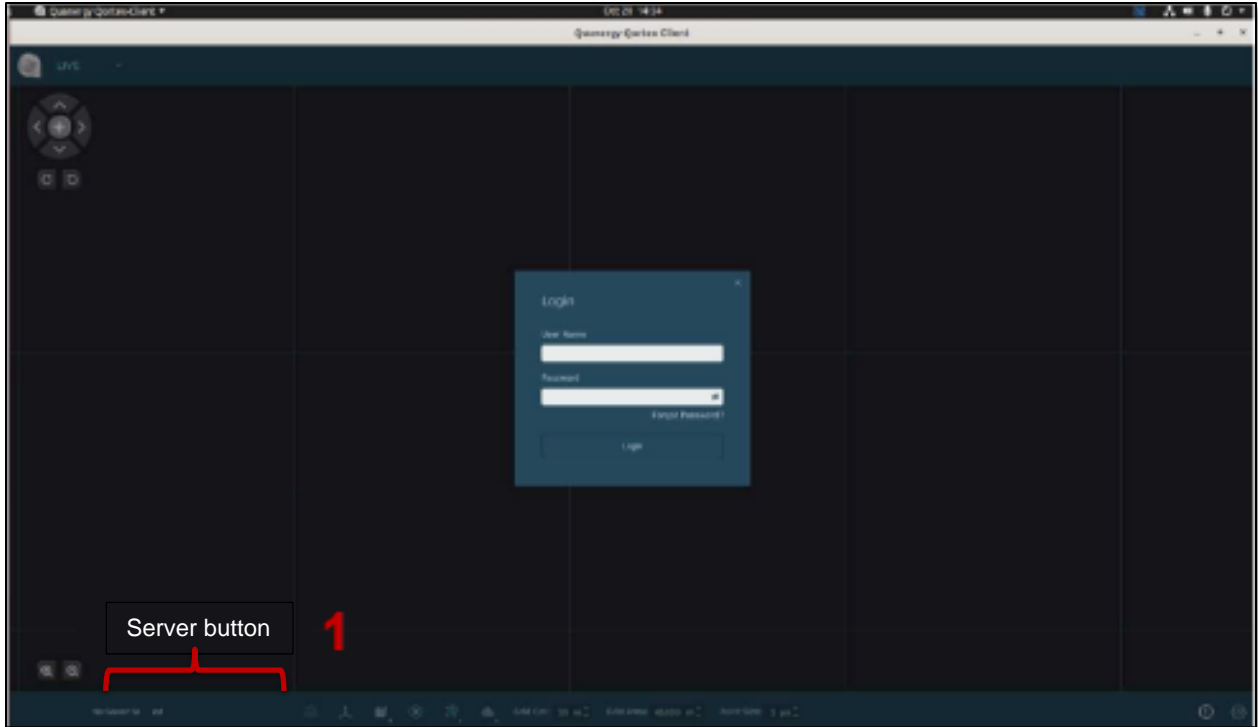

Figure 19. Client Window First Time Start
If the client is on an Ubuntu system, you provide the server IP address when the client is started for the first time. If the client is on a Windows system, the server is connected after the client starts. See Figure 19. Client Window First Time Start.
1. From the QORTEX DTC client interface, click the **No Server Selected** button. See Figure 19. Client Window First Time Start.